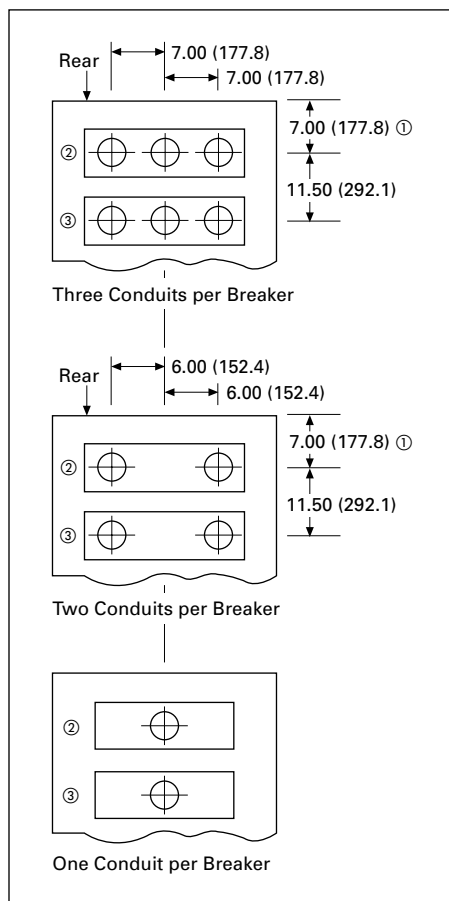

Figure 5.1-34. Primary Conduit Locations for 2-High Breakers ④⑤
① Power cable entrance area. Refer to **Figure 5.1-34** for typical conduit locations. Refer to shop drawings for order specific locations.
- ② Power cable entrance area. Refer to **Figure 5.1-34** for typical conduit locations. Refer to shop drawings for order specific locations.
- ③ Recommended minimum clearance to rear of VacClad-W. Local authority having jurisdiction may require larger distance.
- ④ Floor steel, if used, must not exceed this dimension under VacClad-W.
- ⑤ Anchor locations: 5A and 5B for seismic applications, 5A only for non-seismic application. For indoor, use 0.5-inch (12.7 mm) bolts or weld.
- ⑥ Station ground connection provision.
- ⑦ Secondary conduit space: All—maximum of 1.00-inch (25.4 mm) projection.
- ⑧ Minimum clearance to LH side of VacClad-W. Minimum clearance to RH side of the switchgear: 6.00 inches (152.4 mm).
- ⑨ Finished foundation surface shall be level within 0.06-inch (1.5 mm) in 36.00 inches (914.4 mm) left-to-right, front-to-back, and diagonally, as measured by a laser level.
- ⑩ Minimum clearance to front of VacClad-W. Local authority having jurisdiction may require larger distance.